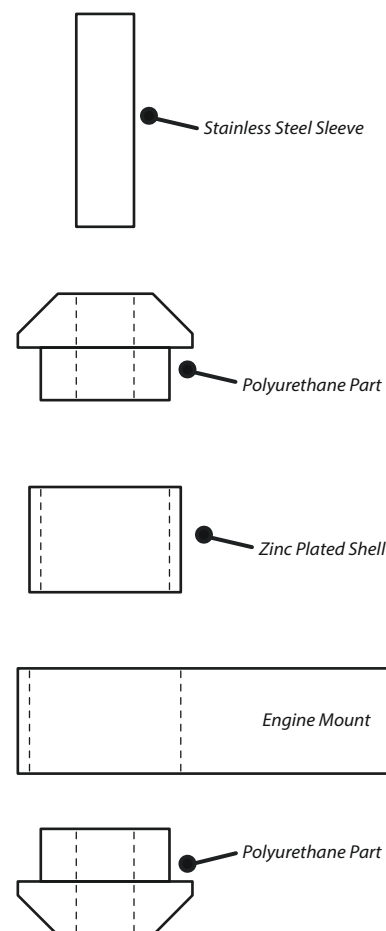

Figure 1
5. Push the other polyurethane part into the bore of the shell from the opposite direction, as shown in figure 1.